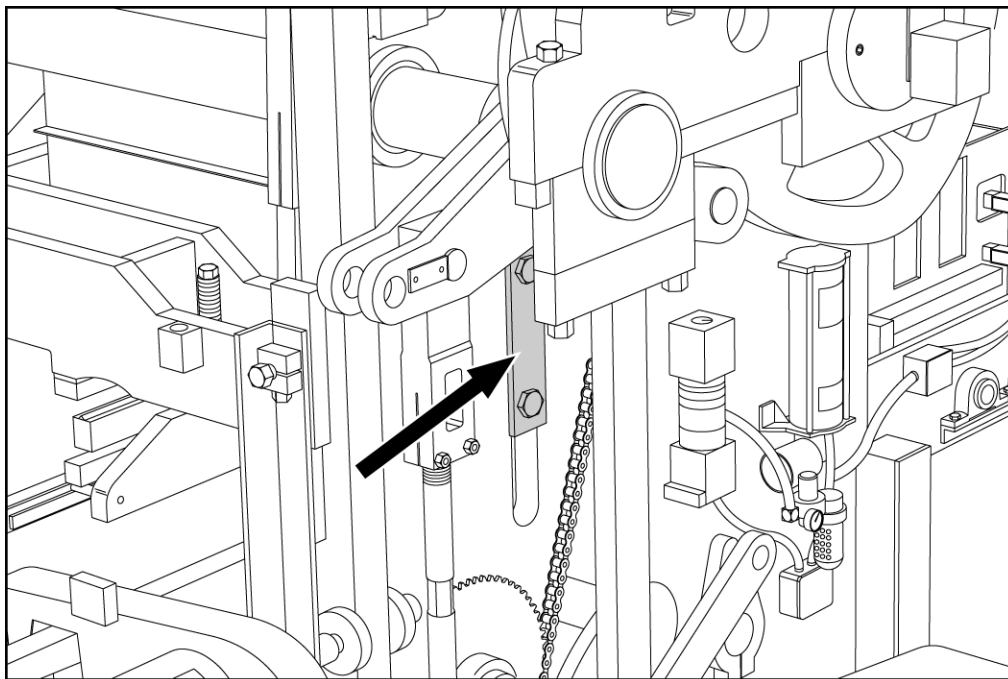

Figure 4.54 TIGHTEN "T" CLAMPS ON BOTH SIDES
- f. Tighten "T" clamps on each side of machine that secure machine side plate to mold throat plate. See figure 4.54 below.